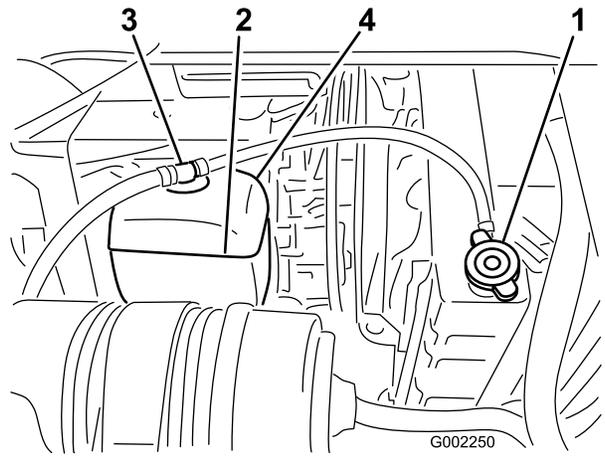

Figure 55
- When the engine is cool, remove the radiator cap (Figure 55).